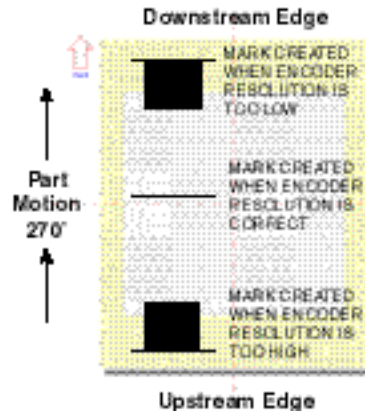

Figure 5 Checking Encoder Resolution
- Encoder Resolution, encoder pulses per millimeter of conveyor motion, must be properly set to prevent mark distortion or marking outside the *Target Area*. See the *FH Series Marking Head Operator's Manual* for details on calculating *Encoder Resolution*. After determining the correct value, open and run the *Linestack200.mkh* or *Linestack370.mkh* mark file to verify the calculated value (for 80 mm and 125 mm lenses, copy the linestack objects and paste into a New drawing created with the correct lens setting). If *Encoder Resolution* is correct, then short and long lines will appear as one long line as shown in Figure 5.